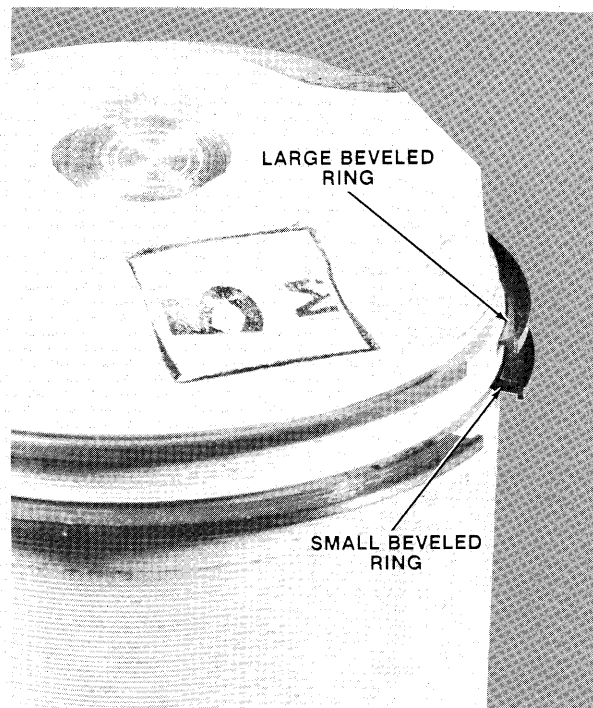

Figure 18—Piston Rings for 130 and 150 H.P. Models
On 130 H.P. and 150 H.P. models, there are two (2) different rings used per piston. The small beveled ring is positioned in the bottom ring groove. The large beveled ring is positioned in the top ring groove as shown in figure 18.